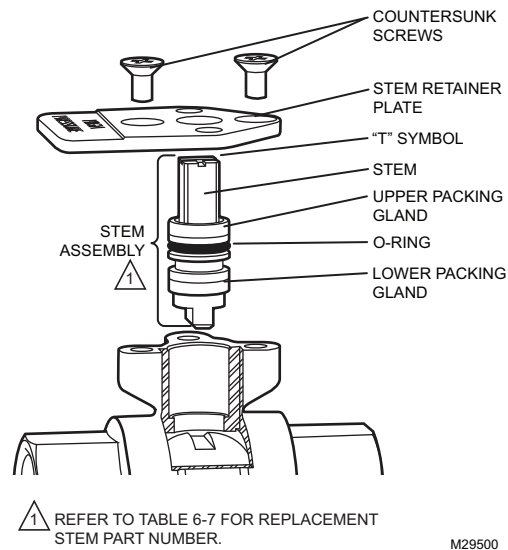

Fig. 13. Replacing the valve stem in-line.
The valve stem can be replaced in-line, if necessary. See Fig. 13.
7. Slide the sub shaft over the stem with the tab oriented as shown in Fig. 13.